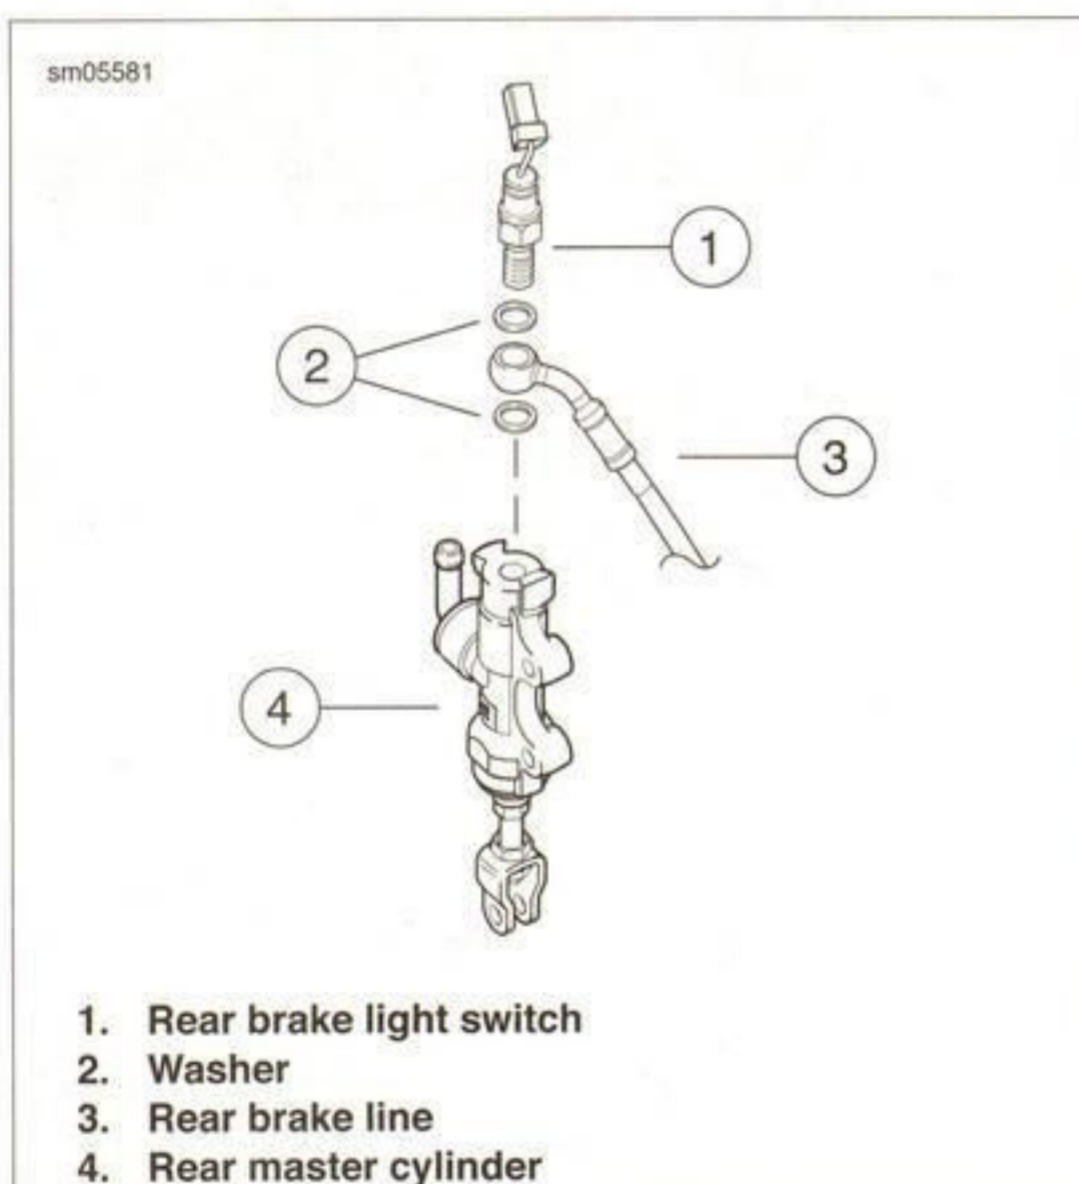

Figure 7-79. Rear Brake Light Switch Assembly
2. To install, insert rear brake light switch through rear brake line and two **new** washers into master cylinder. See Figure 7-79.